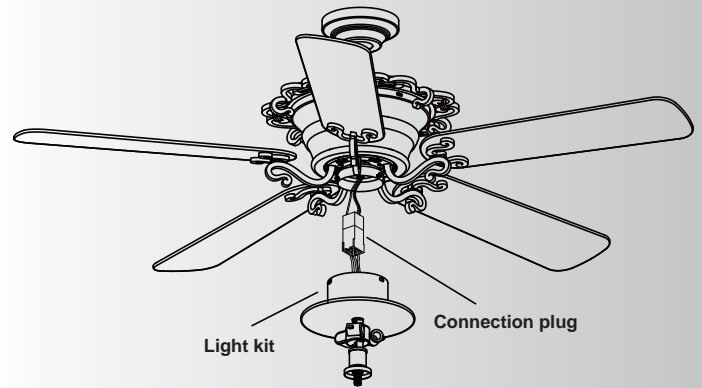

Fig. 21
Step 6. Tuck the connections neatly into the switch housing. Align the key hole on the switch housing with the screws on the mounting plate. Turn the light fixture until it locks in place at the narrow end of the key holes. Tighten all 3 screws previously loosened. (Fig. 21)